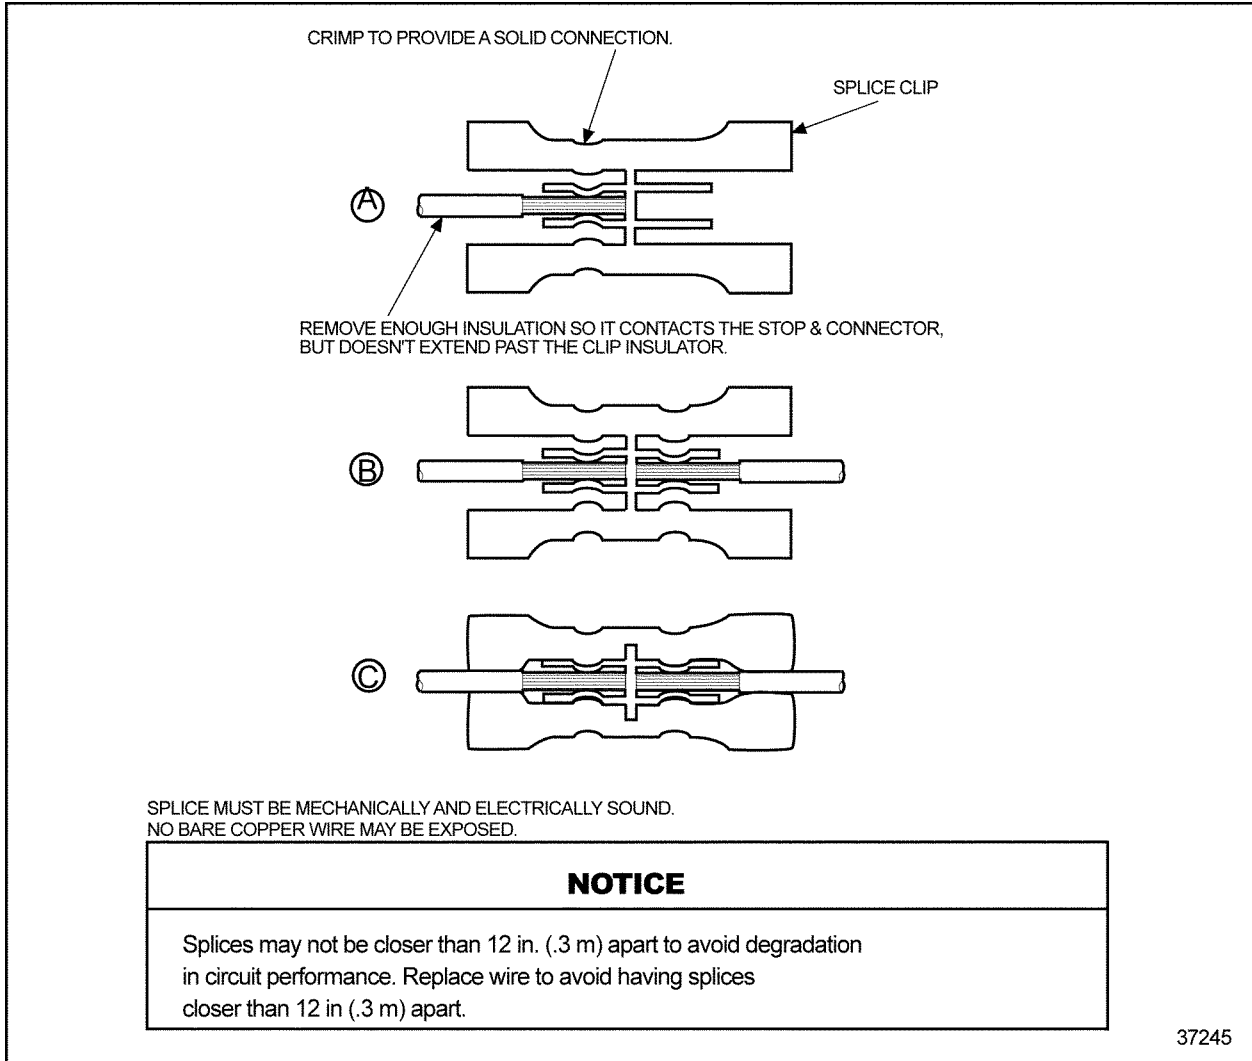

Figure 2-17 Splicing Straight Leads - Alternate Method 1
3. Insert one wire into the splice clip until it butts against the clip. Stop and crimp (see Figure 2-17, A).
4. Insert the other wire into the splice clip until it butts against the clip stop (see Figure 2-17, B).
7. Shrink the splice clip insulative casing with a heat gun to seal the splice (see Figure 2-17, C).